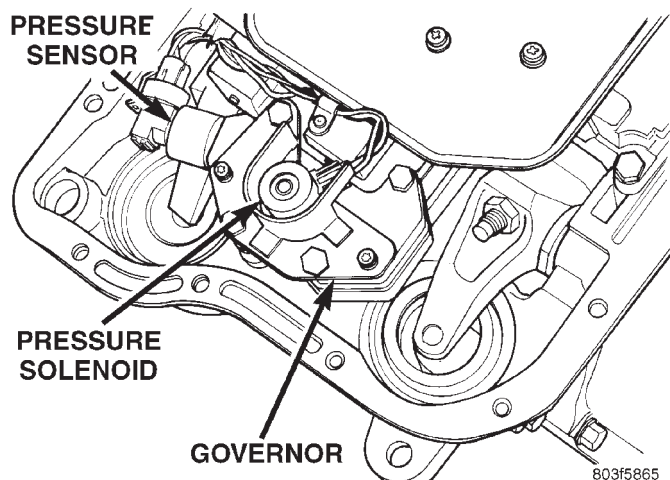

Fig. 97 Governor Pressure Sensor And Solenoid Connectors
- (8) Align screw holes in governor body and transfer plate. Then install and tighten governor body screws to 4 N·m (35 in. lbs.) torque.
- (9) Connect harness wires to governor pressure solenoid and governor pressure sensor (Fig. 97).
- (10) Perform Line Pressure and Throttle Pressure adjustments, refer to adjustment section of this group for proper procedures.
- (11) Install fluid filter and pan.
- (12) Lower vehicle.
- (13) Fill transmission with recommended fluid and road test vehicle to verify repair.